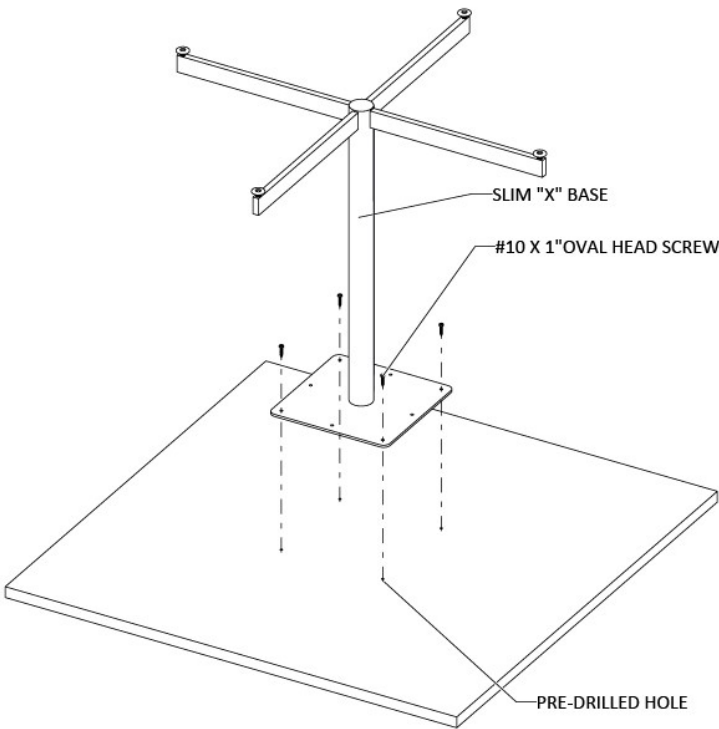

Figure 2
2. Position the slim “X” base using the pre-drilled positioning holes and attach it to square table top using #10 X 1” Oval Head Screws, (Figure 2).